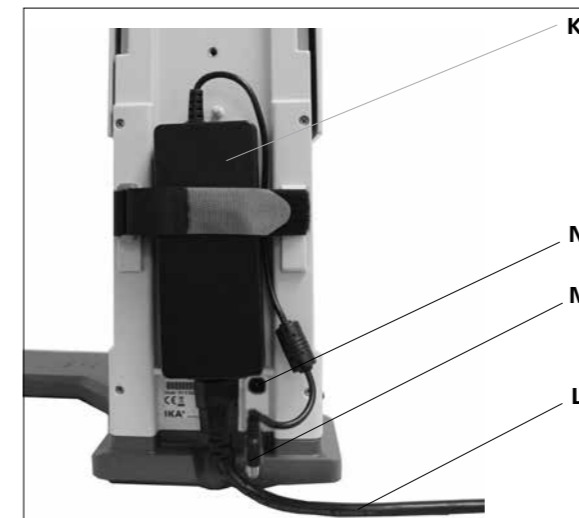

Fig. 9
3.) Fix the Desktop switching. (Fig. 9)
- Attach the switching adapter (K) on the rear side. Secure it with the Velcro, by contracting both tabs on the switching adapter. The Velcro must not be below the switching adapter.
- Connect the Low-voltage connector (M) to the connection socket (N). (Fig. 9)
- Plug the power cord (L) in the switching adapter and connect it to the power source.